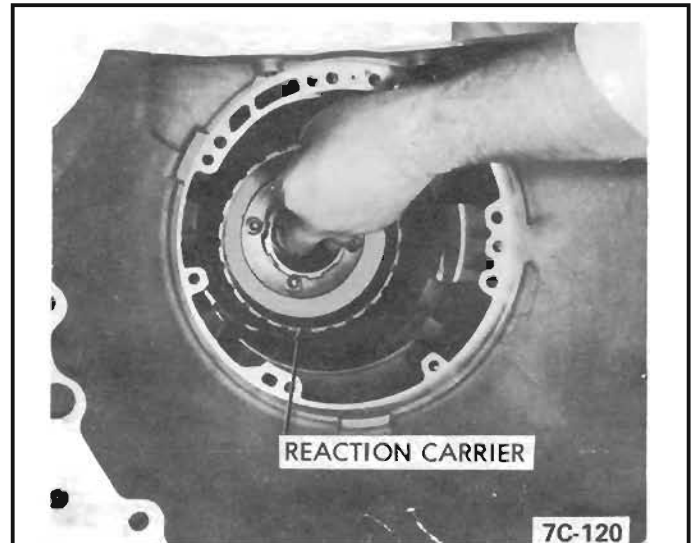

Figure 38 Reaction Carrier Removal
1. Remove reaction carrier assembly from output ring gear and shaft assembly. *See Figure 38.*